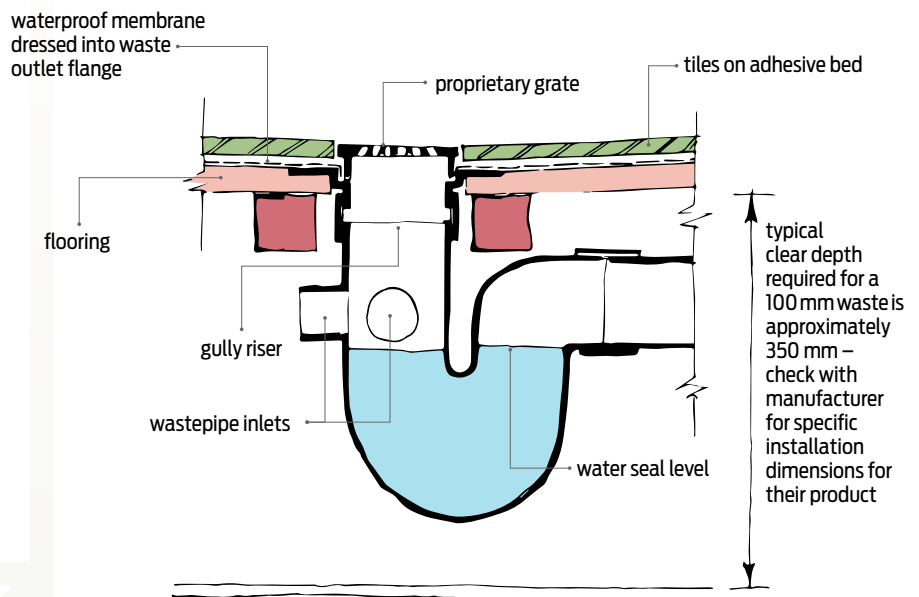

Figure 2. Floor waste gully trap.
- A floor waste gully can receive discharge from several fixtures in the same room, but connections are limited by the number of discharge pipes and distance (Figure 2). They may also be used as shower outlets, so they save space, reduce pipe length and reduce the number of connections required to the drain. They may be noisy, and fixtures that discharge into them must be used regularly so they remain filled with water. ▀